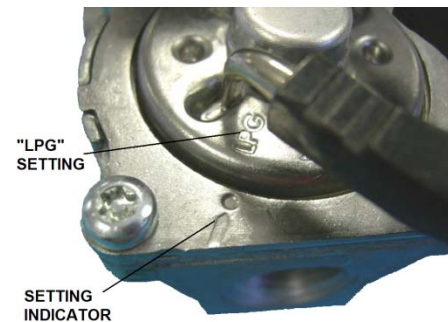

FIGURE 7
20. Rotate cover dial 25 degrees counter clockwise lining up "LPG" marking with the indicator on the gas valve. See Figure 7.